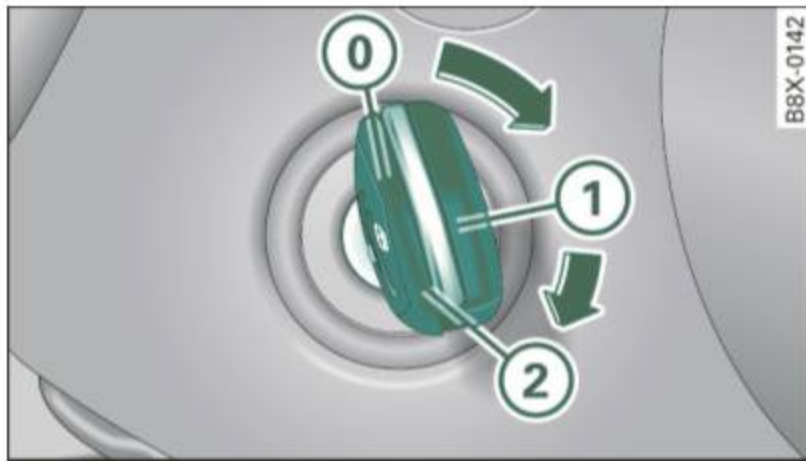

Fig. 108 Ignition key positions
- Turn the ignition key to position ① ⇒ fig. 108. The glow plug warning light ⚠ lights up while the glow plugs are warming up.